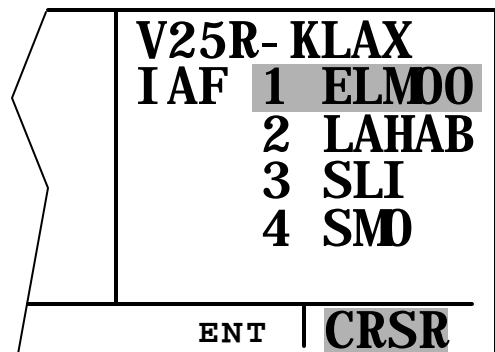

Figure 3D-58. Selecting the Initial Approach Fix.
6. The KLN 90B next presents a list of waypoints that make up the approach. Refer to Figure 3D-59. Review the waypoints to ensure the correct IAF has been selected. If there are more than four waypoints in the approach, move the cursor up with the right outer knob to scroll the other waypoints into view.